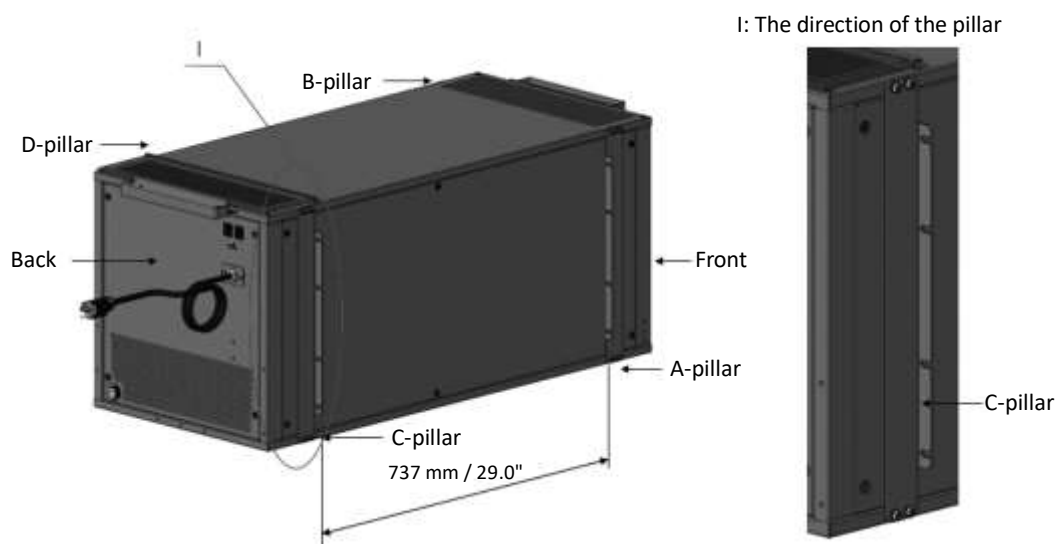

Figure 3-6 Right-side view
- The direction of the pillar is correct as Figure 3-6 depicted.